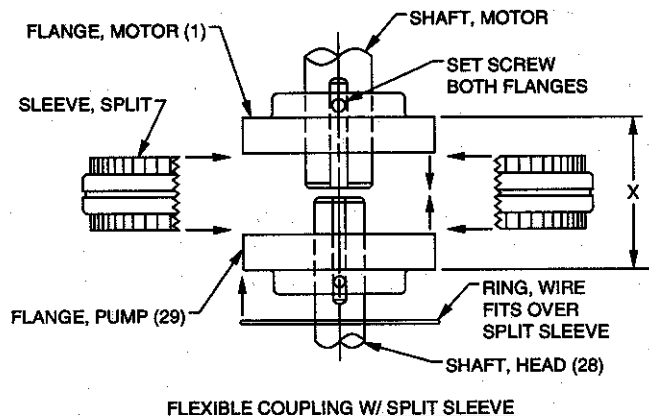

Figure 3.
B. INSTALLING THE MOTOR: The motor (30), if supplied by Peerless Pump, will be shipped loose. The pump flexible coupling half will be installed on the pump head shaft (28). The internal coupling parts and the motor half coupling will be shipped loose, see **Figure 3**. If the motor is shipped direct or furnished by the customer, the motor half coupling (1) must be installed on the motor shaft.
C. CHECK ROTATION: Pump rotation is clockwise looking downward; see arrow on motor pedestal (2). Prior to coupling pump and motor half couplings, check motor for rotation. **Damage to pump parts is likely if pump is operated in reverse rotation.** If the rotation is not correct, reverse it by changing the wiring connections to the motor. For three-phase motor, interchange any two of the three leads. If the motor is single-phase, directions for reversing rotation are given on the nameplate. Mark leads to indicate the correct connections.
E. PUMP/MOTOR COUPLING ASSEMBLY: Refer to **Figure 3**. Position the flanges on the shaft to approximately achieve the 'X' dimension shown in **Table A**. It is best to have an equal length of shaft extending into each flange. Tighten one flange in its final position. Slide the other flange far enough away to install the sleeve. With a two piece sleeve, do not move wire ring to its final position; allow it to hang loosely in the groove adjacent to the teeth.
1. Disconnect the pump/motor coupling, see **Figure 3**.
2. Loosen adjustment bolts and jam nuts (D).
3. Tighten bearing housing bolts (C) while rotating the pump shaft (14) by hand until the impeller lightly contacts the casing (19).
4. Loosen each bolt (C) until a .015" (0.38mm) feeler gauge can be placed between the bearing housing flange (27) and underside of head of bolts (C).
5. Be sure jam nuts on bolts (D) are loose. Tighten each bolt (D) a flat at a time until bearing housing (27) is tight against bolts (C). Be sure all bolts (C&D) are tight. Tighten jam nuts on bolts (D).
6. Rotate pump shaft (14) by hand several times to check for free turning. If unit does not rotate freely, repeat adjustment procedure.
2. Disconnect the pump/motor coupling, see Figure 3.
3. Disconnect the motor (30) and remove from the pedestal (2).
4. Disconnect discharge piping at the discharge flange (26).
7. Remove all lubrication lines (24).
8. Remove pump half coupling (29) and key (34) from the head shaft (28).
9. Remove suction strainer (20).
10. Disconnect discharge elbow (22) from casing (19).
11. Remove casing (19).
12. Remove adapter to casing gasket (17).